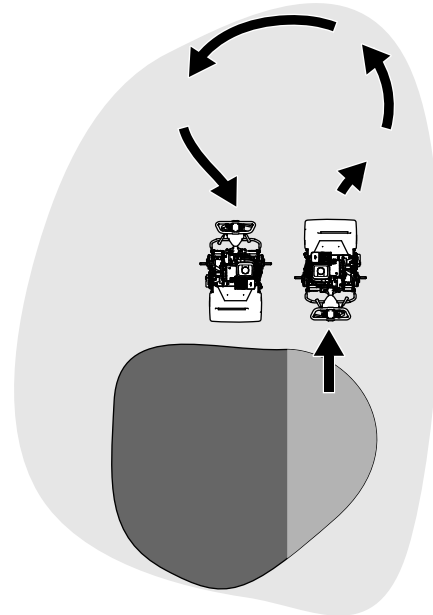

Figure 28
- Turn the machine off the green by raising the cutting reel (pushing the handle down) and performing a tear-shaped turn on the traction drum (Figure 28).
1. Locate the traction-engagement lever on the transmission gearbox (Figure 28).